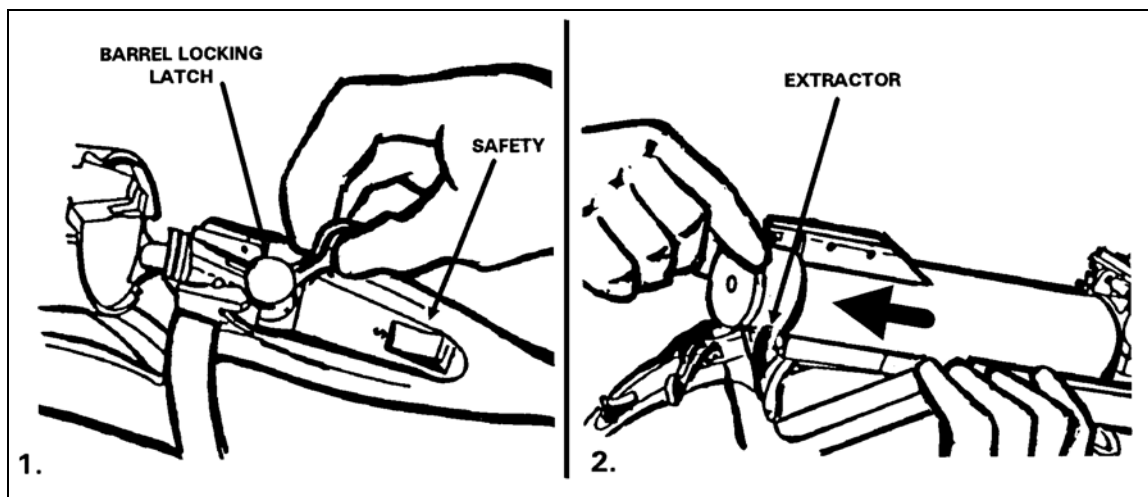

Figure A-14. Unloading the grenade launcher.
- b. **Unloading.** To unload the weapon (Figure A-14)--
- (1) Place the weapon on safe by moving the barrel locking latch as far right as possible.
- (2) If the cartridge case is partially extracted, remove the cartridge case. If the cartridge case is not partially extracted, engage the extractor tang and pull it rearward.
- (3) Grasp the cartridge case and remove it.